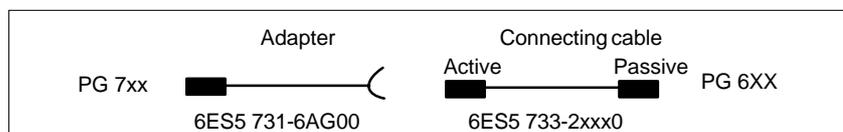

Figure 3-13 Direction of Connection: Adapter - Connecting Cable
- 1) When connecting the programming units is series, make sure you connect the cable the right way round (refer to Figure 3-13).